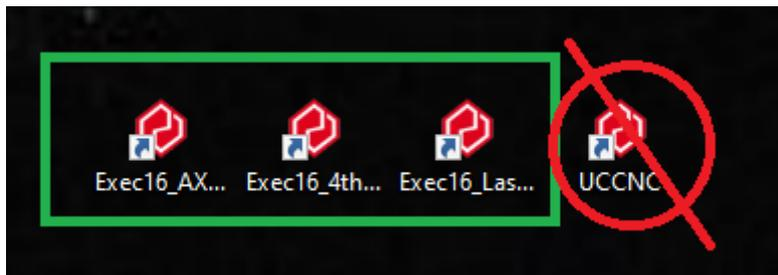

Figure 27: The UCCNC shortcut you should now have on the desktop
- Double click on the icon on your desktop that the profile installer created in Step 3. This should be “machine Model here” on the desktop (as shown in Figure 27)